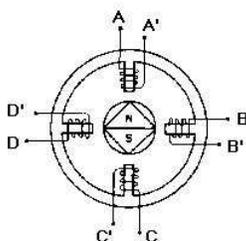

Figure 6: Permanent Magnet Motor
**Permanent Magnet (PM)** - PM stepper motors differ from VR stepper motors by having permanent magnet rotors with no teeth that are magnetized perpendicular to the axis. In energizing the four phases in sequence, the rotor rotates as it is attracted to the magnetic poles. The stepper motor shown in Figure 6 will take 90 degree steps as the windings are energized in sequence ABCD. PM's generally have step angles of 45 or 90 degrees and step at relatively low rates, but they exhibit high torque and good damping characteristics. Anaheim Automation carries a wide selection of PM stepper motors, ranging from 15 to 57mm in diameter.